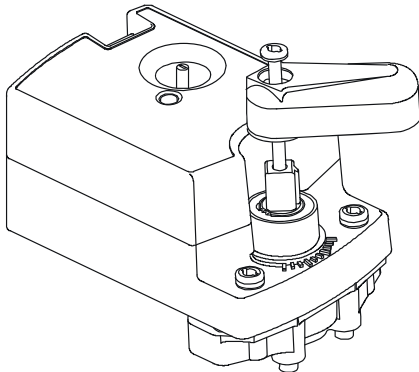

Figure 3: Installing the Handle
3. Place the handle to the top of the drive shaft (Figure 3). The handle is keyed on and can only be mounted in one orientation.
- verify that the valve fully opens and closes, using the gear release button on the actuator and the manual override handle, shown in Figure 3.